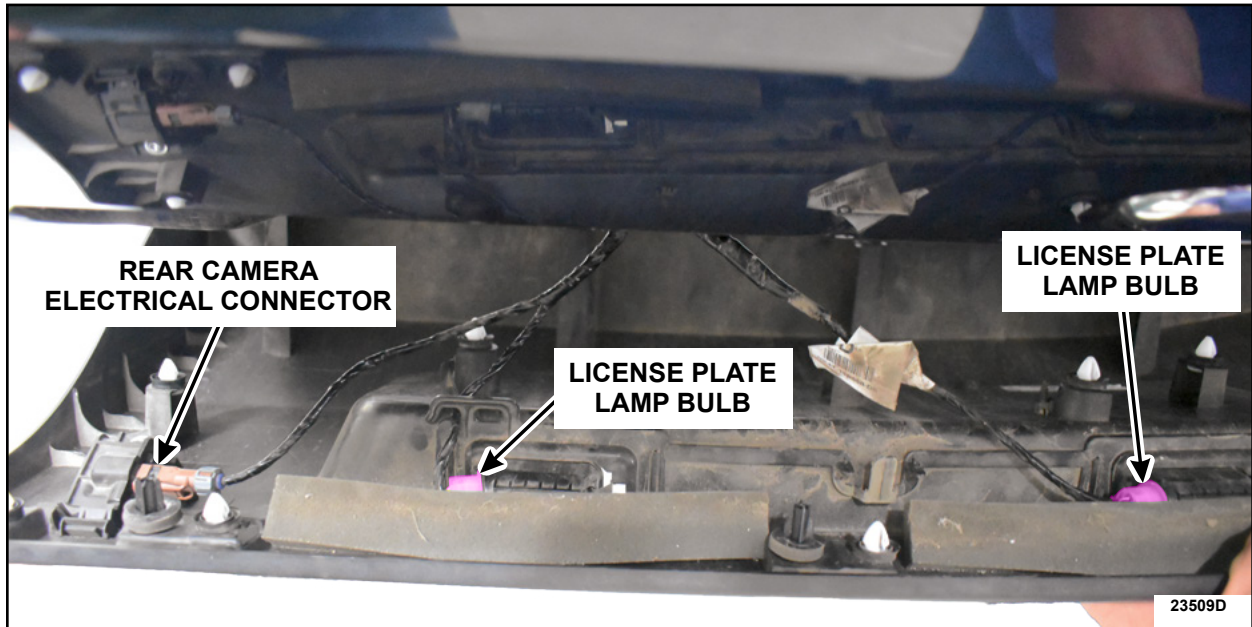

FIGURE 8
3. Install the license plate lamp bulbs and connect the rear camera electrical connector. See Figure 8.